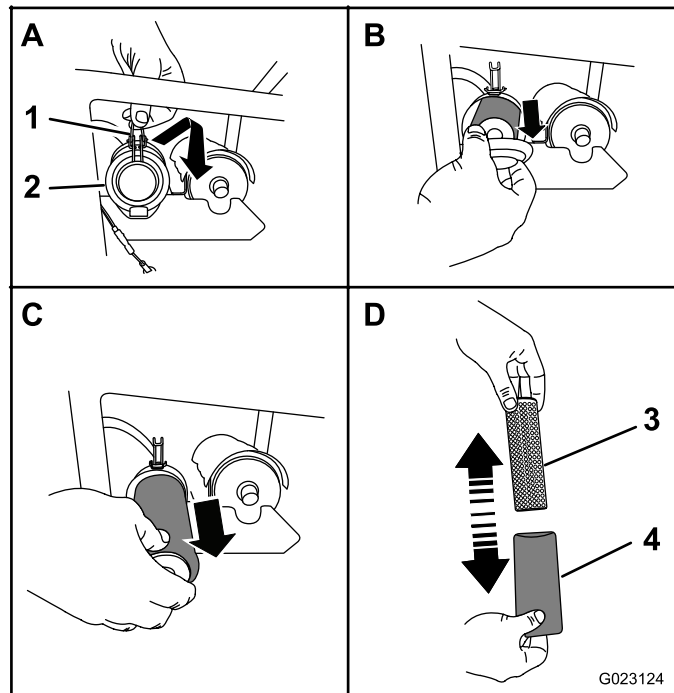

Figure 16
1. Open the latch of the air-filter cover (Figure 16).
2. Remove the air filter from the housing as shown in Figure 16.